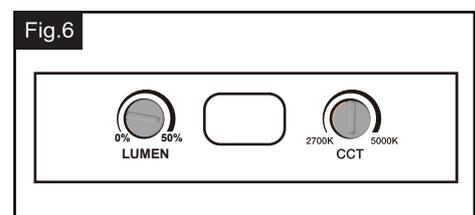

Fig.6
**Note: You can adjust the low-level brightness (0~50%) and CCT color (2700K~5000K) by using the low-level brightness (0~50%) knob and CCT color (2700K~5000K) knob on the backplate (See Fig.6)**
**Note: You can adjust the CCT color (2700K~5000K) by using the CCT color (2700K ~5000K) knob on the backplate. (See Fig.6)**